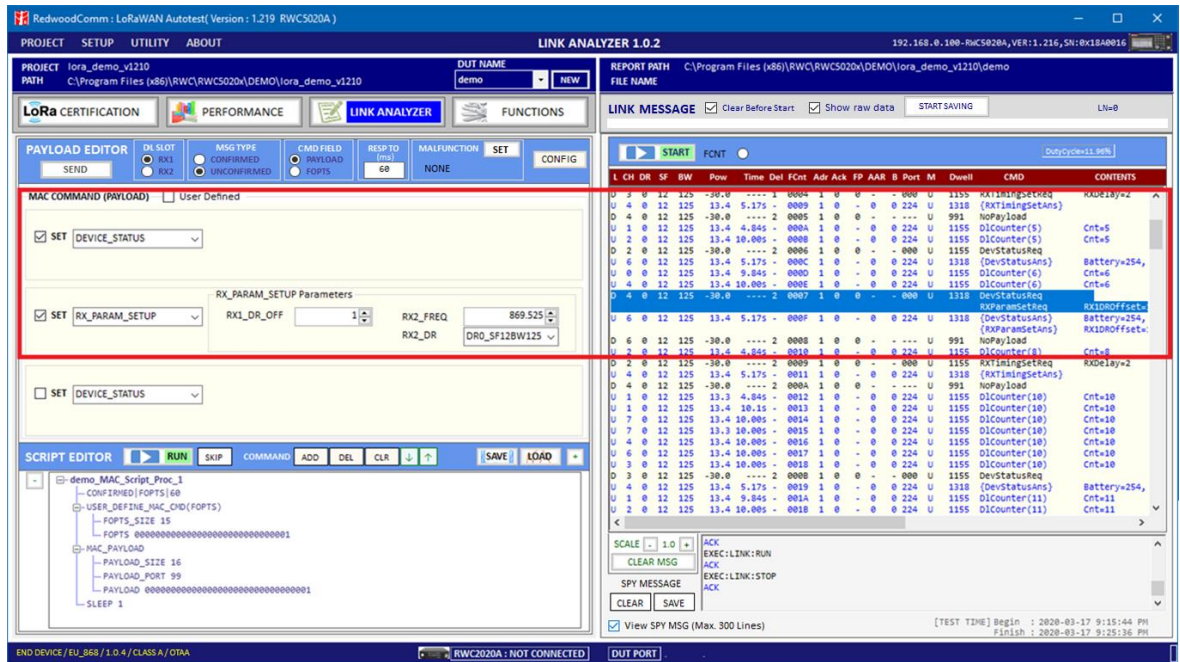

Fig 3.36 Sending multiple commands in a single packet
**Malfunction Editing** - Click [SET] button in MALFUNCTION area and select the types of error which you want to add like fig. 3.36. To generate an intentional MIC error, set MIC\_ERROR to ON. To modify the MAC header part, set MHDR\_ERROR to ON and configure the XOR\_MHDR value. XOR\_MHDR value is exclusive OR with MAC Header. To modify the Frame header part, set FHDR\_ERROR to ON and configure the XOR\_FHDR value. XOR\_FHDR value is exclusive OR with Frame Header.